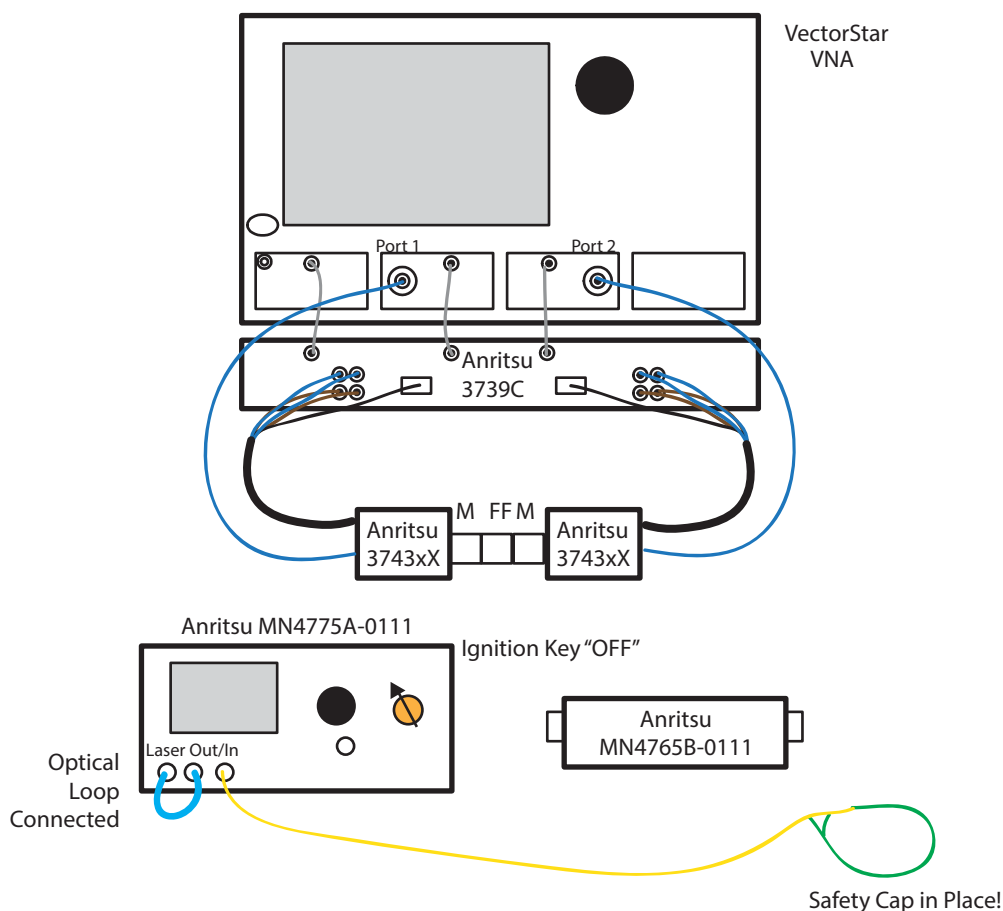

Figure 3-13. Initial ME7848A/E-0271 1310 nm Initial System Setup
1. Configure components (VNA, O/E, E/O, RF and Optical cables) as shown in Figure 3-13.
- b. Keep **Ignition-Key** in OFF Position as shown in Figure 3-13.
6. Make initial VNA RF Connections shown in Figure 3-13.
7. Make Optical connection shown to MN4775A-0111 as shown in Figure 3-13.